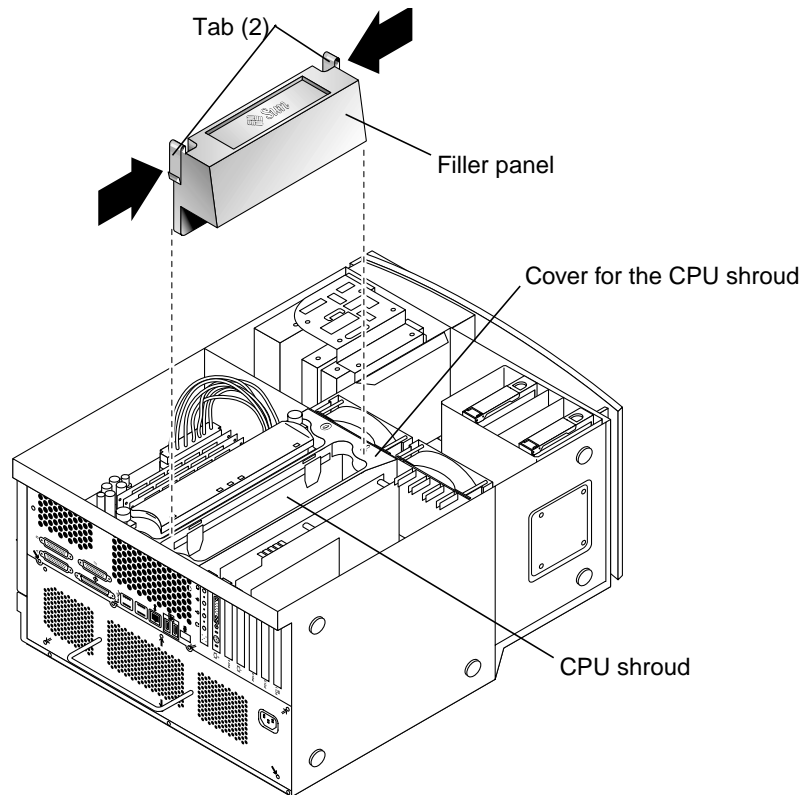

FIGURE 7 Removing the Filler Panel
3. If necessary, remove the filler panel (see FIGURE 7).
Caution – To ensure proper workstation cooling, any unused CPU slot must contain a filler panel for the shroud (see FIGURE 7).